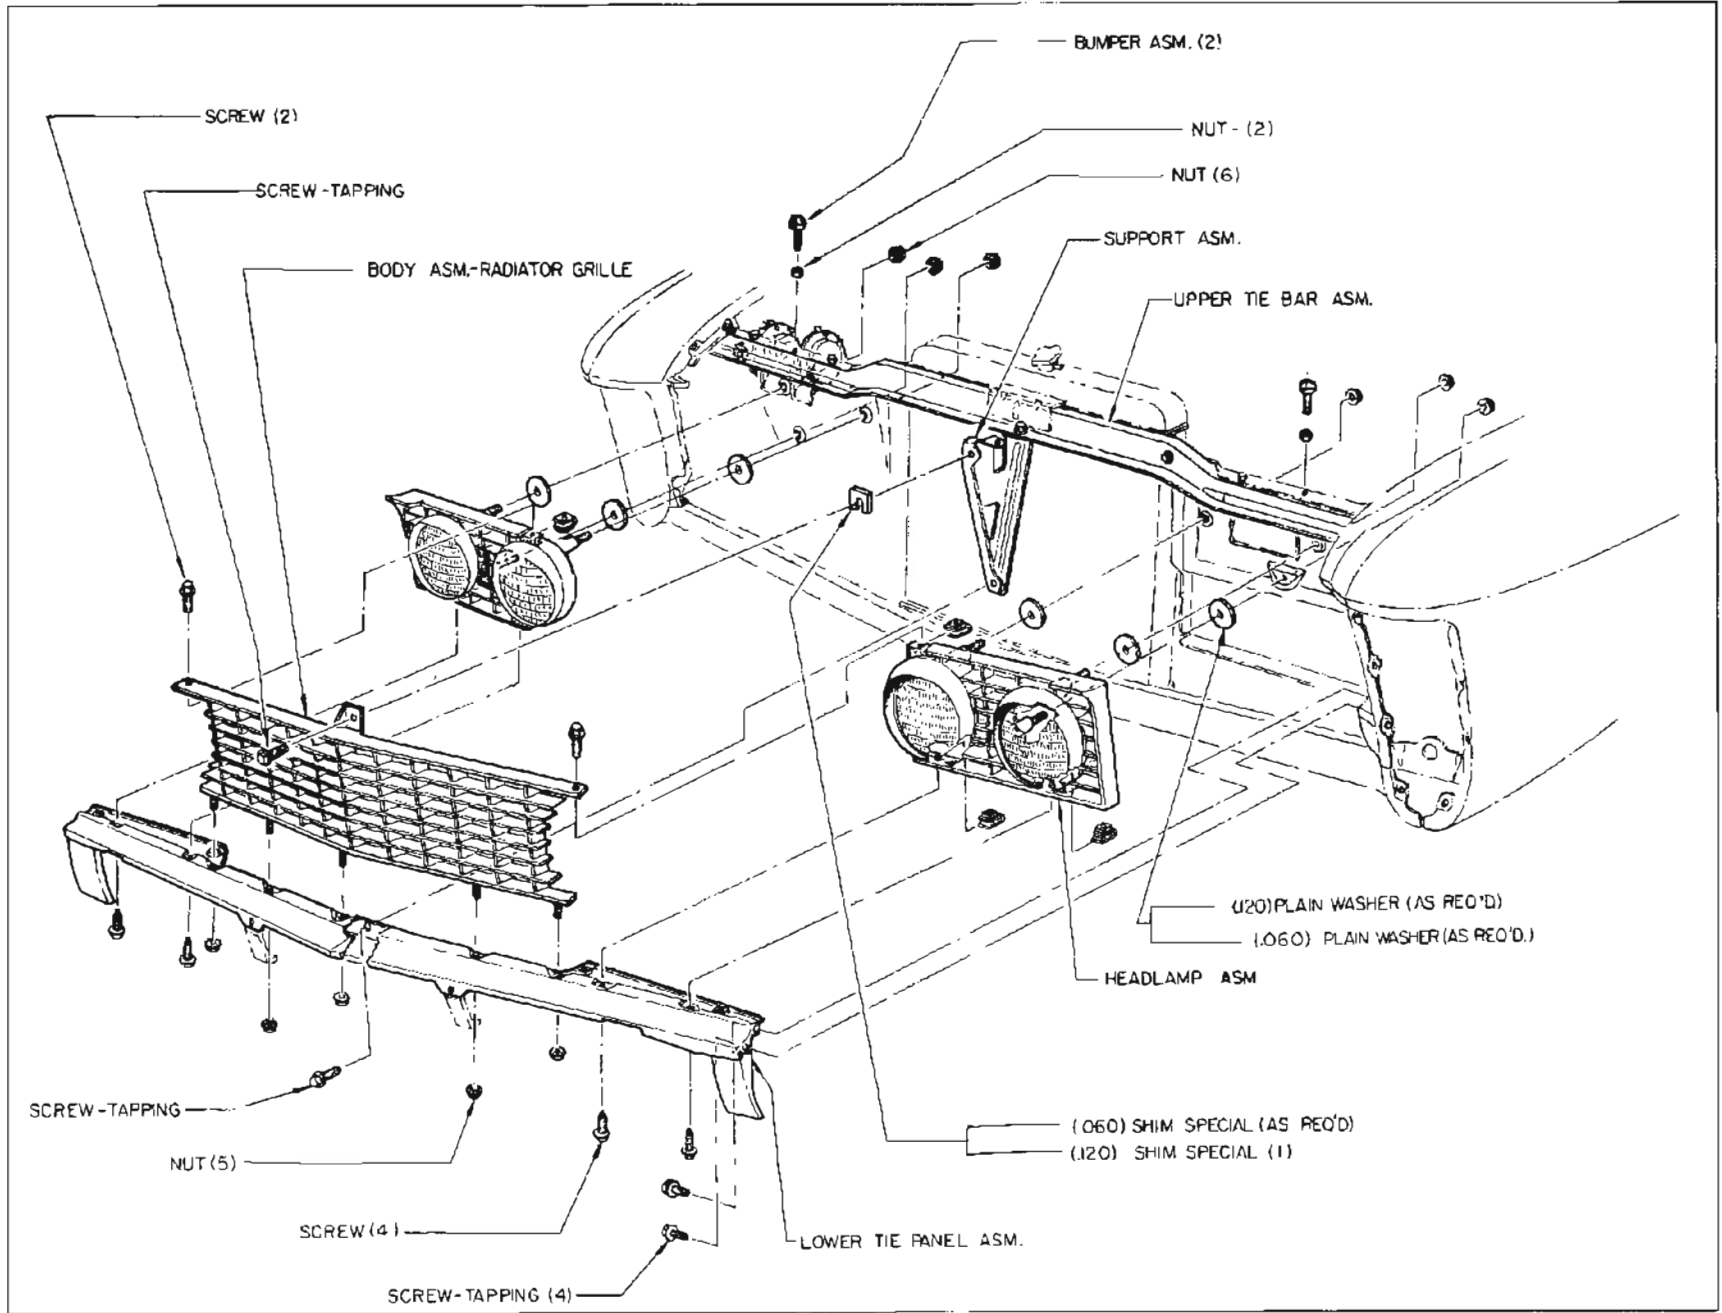

Figure 12-12—Radiator Grille, Headlamps & Front End Installation—4700 Series
3. Front Height. This is determined by two adjustable bumpers. See Figure 12-12 and 13. However, the front of the hood may not contact these bumpers unless the hood latch is correctly adjusted as described in Step 4.